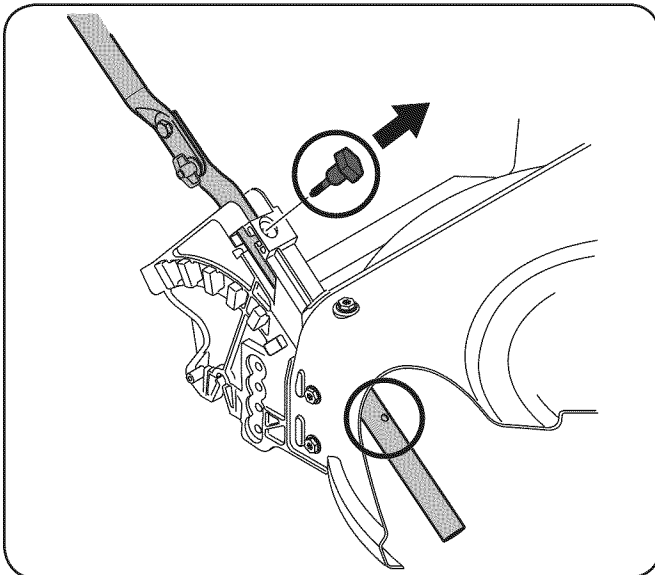
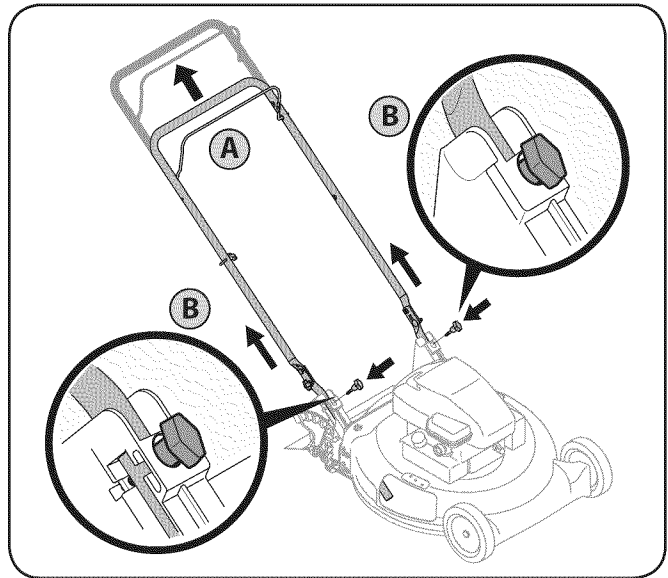

Figure 3-3
Figure 3-4
2. Remove the T-bolts from the handle brackets as shown in Fig. 3-3.
- a. Pull upward on the handle 8 inches until holes in lower handle (shown in Fig. 3-3 deck cutaway) line up with holes in handle bracket. See Fig. 3-4.
- b. Insert the T-bolts removed earlier through the handle brackets and lower handle and tighten securely to secure the handle in place. See Fig. 3-4.